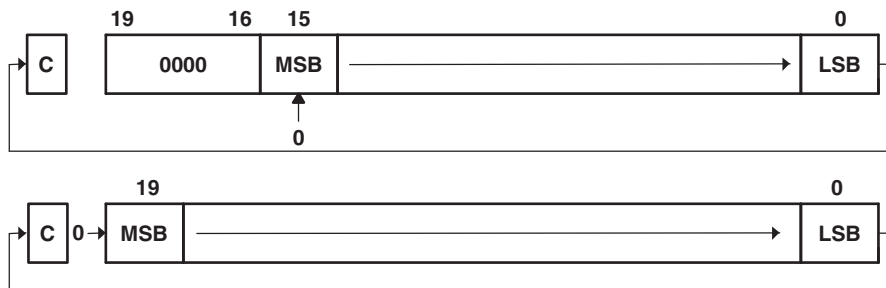

Figure 4-52. Rotate Right Unsigned RRUM.[W] and RRUM.A
**Description** The destination operand is shifted right by one, two, three, or four bit positions as shown in Figure 4-52. Zero is shifted into the MSB, the LSB is shifted into the carry bit. RRUM works like an unsigned division by 2, 4, 8, or 16. The word instruction RRUM.W clears the bits Rdst.19:16.